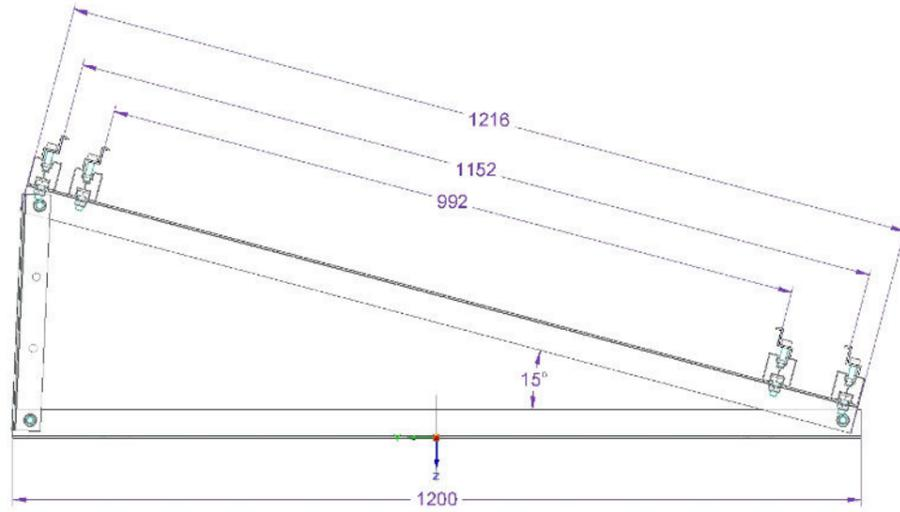

Fig.2-3 Angle 15°
1. Due to its simplicity K9000, allows for quick assembly (up to a few minutes for one supporting structure) achieving the required angle of inclination of Photovoltaic (PV) modules in the range from 15° to 30° (Fig. 2-3 - 2-6). The K9000 allows you to mount PV modules with a width of 992 mm up to 1152 mm. The DIN 933 - M10x30-A2 hexagonal screw with the flange nut DIN 6923 M10-A2 (Stack B+C) for bolting the support structure.